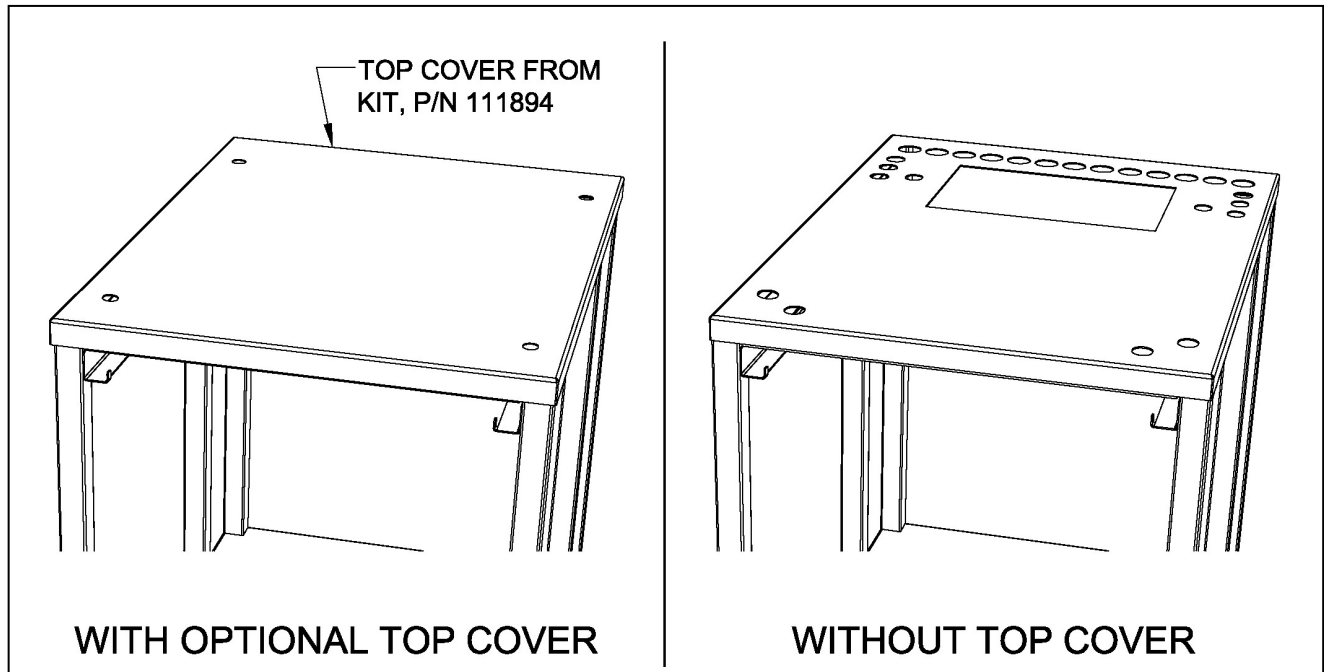

Figure 8
2. Place optional top cover, if used, on stand so that the four holes in cover line up with their corresponding holes in stand (See Figure 8).
3. Set the steamer directly on stand as shown in Figure 8 on the next page.
- If Optional Top Cover is used, see Figure 8 on Page 9.